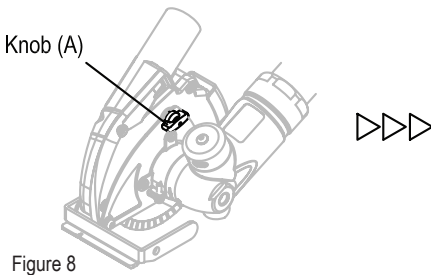

Figure 8
1. Loosen the Dust Collection Knob (A). (Figure 8)